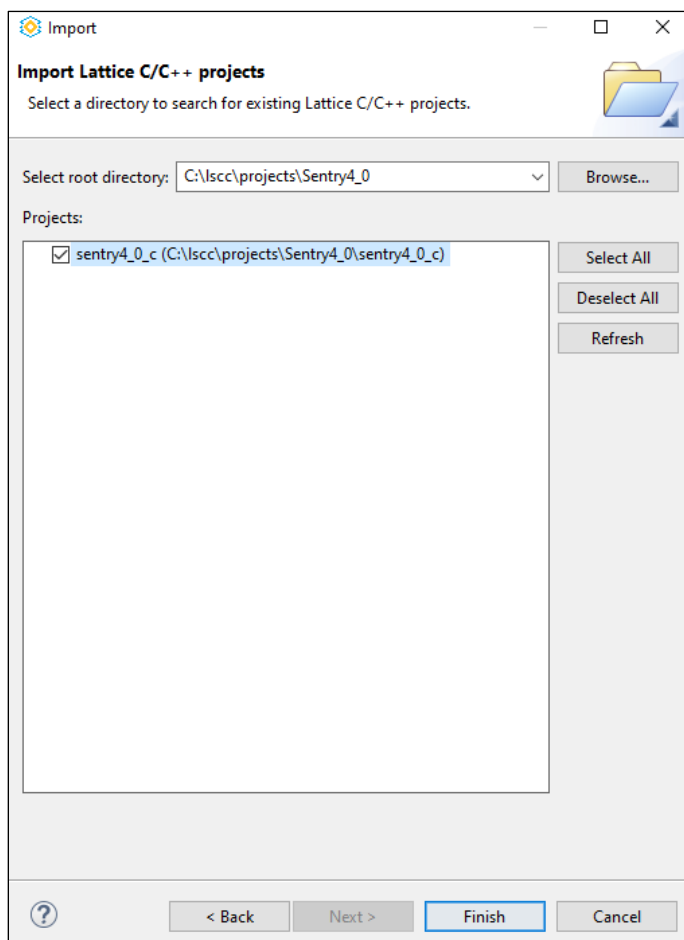

Figure 5.10. Identify Lattice C/C++ Projects
6. The Import tool automatically identifies the C project, as shown in Figure 5.10.